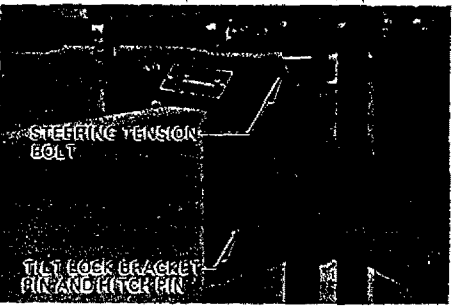

Figure 6
- c. The angle of the motor column is easily adjusted by removing the Hitch Pin and changing the Tilt Lock Bracket Pin in the Five (5) different angle position holes located on either side of the right or left Transom Mounting Brackets. Each angle position elevates five (5) degrees. Try center hole position first. (See Figure 6).
Tighten steering tension bolt using a spanner for desired steering effort. (See Figure 6).